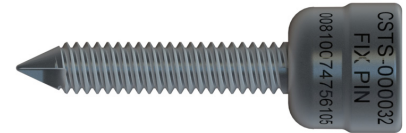

Figure 10
- ▲ Once the plate is placed in the correct position, it can be secured in place using the Fixation Pins (Fig. 10). The Fixation Pins can be placed through any of the screw holes. Use the Driver to insert the Fixation Pins.